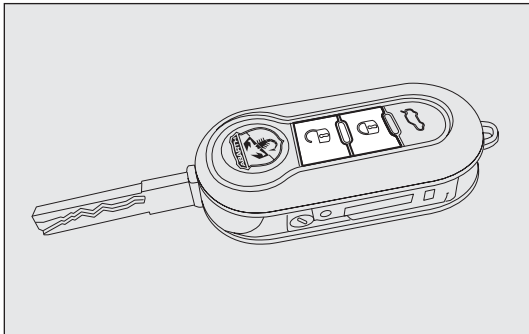
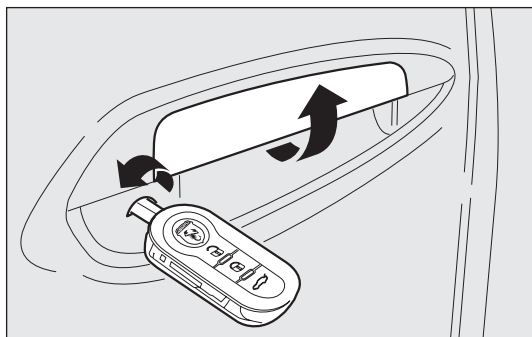
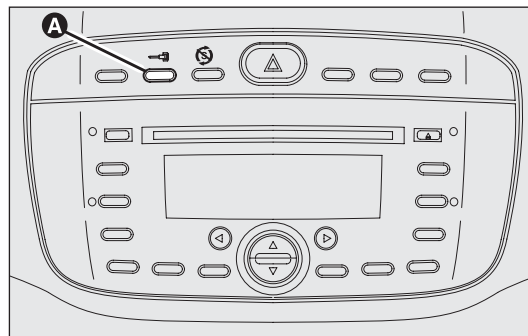

fig. 67
fig. 68
fig. 69
With the doors closed, press button  on the remote control fig. 67 or insert the key into the lock of the door on the driver's side and turn it clockwise fig. 68. The locking of the doors is signalled by the LED on button A-fig. 69 flashing once. The doors can be locked only if they are all shut. If one or more doors are open after pressing button  on the remote control fig. 67, the direction indicators and the LED on the button A-fig. 69 flash quickly for approximately 3 seconds.
If one or more doors are open after turning the key, only the LED on button A-fig. 69 will blink rapidly for approximately three seconds. If the doors are closed but the boot is open, the doors are locked: the direction indicators (only when locking is carried out using button  fig. 67) and the LED on button A-fig. 69 flash quickly for approximately 3 seconds.
With this function on, you can still unlock the other doors by pressing button A-fig. 69 on the central control panel.
Double-tapping button  on the remote control fig. 67 activates the dead lock device (see “Dead lock”).
Briefly press button  fig. 67 to unlock the doors remotely, turn on the ceiling lights for a limited period and double flash the direction indicators, or insert the key into the driver's door lock and turn it anticlockwise as shown in fig. 68.
Press button A-fig. 69 to lock/unlock all doors. The button has an LED that indicates whether the doors are locked or unlocked.
it will not be possible to unlock them by pressing button A-fig. 69 on the dashboard.
- locking/unlocking button A-fig. 69;
The dead lock device is automatically activated on every door when pressing the remote control button  briefly twice, fig. 67.
Device activation is indicated by 3 flashes of the direction indicators and the flashing of the LED in button A – fig. 69 located in the dashboard controls.